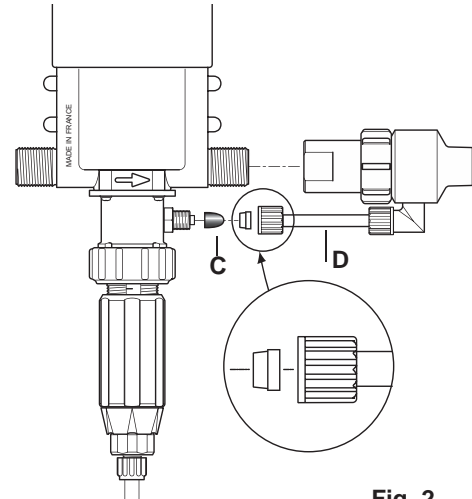

Fig. 2
In order to use corrosive concentrates, the external injection model DOSATRON is also delivered with an external injection hose (Fig. 2-D).
**IMPORTANT ! - Do not put the suction tube strainer on the bottom of the stock solution container. The strainer must be suspended at least 10 cm [4"] above the bottom of the tank to avoid sucking up the insoluble particles that may damage the injection assembly (Fig.2).**